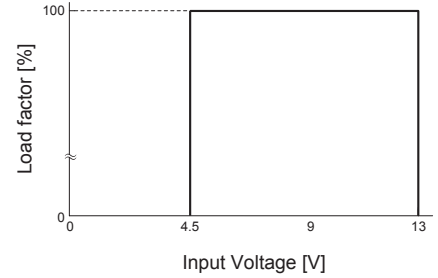

Fig.9.1. Input voltage derating curve (MGF□4005□)
■ MGF40/MGF80 has derating by input voltage is required shown Fig.9.1. and Fig.9.2.